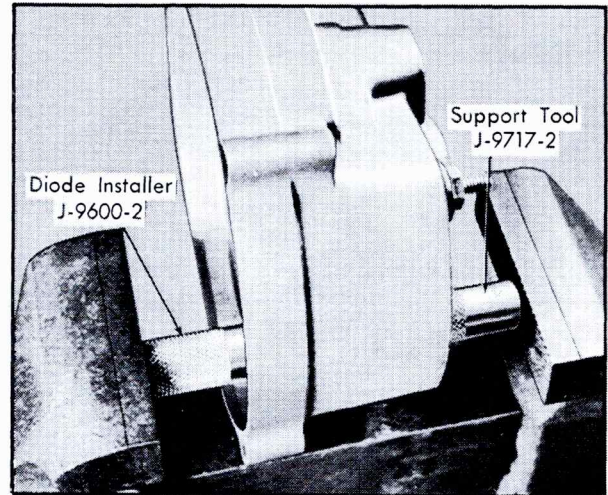

Fig. 6-29 Diode Installation
5. Support outside of end frame or heat sink around diode hole with Diode Support, J-9717-2, and press new diode into position with Diode Installer, J-9600-2, and a vise, Fig. 6-29.